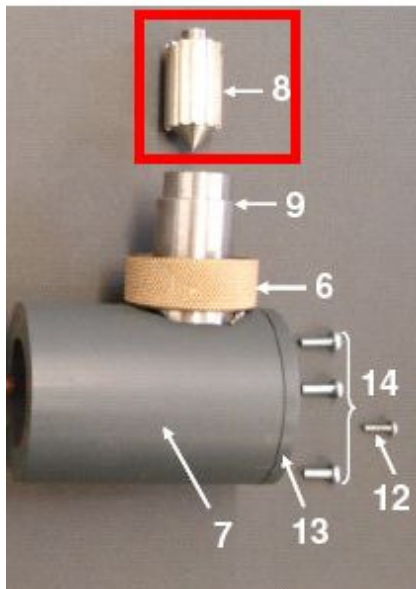

Figure 1: Showing the correct orientation of the burner, highlighted in red.
- Firstly ensure the burner is the correct way round with the flat side pointing up and the cone pointing into the mixing chamber. The correct orientation is demonstrated in Figure 1.